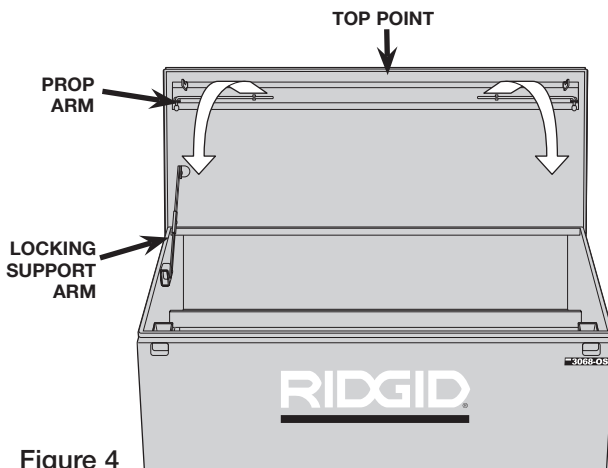

Figure 4
2. Switch hands on cover and repeat (figure 4) for opposite side.
3. Hold the cover at it's top point with your right hand. With your left hand, slightly pull the locking support arm at the hinge until there is a slight bend (figure 4).